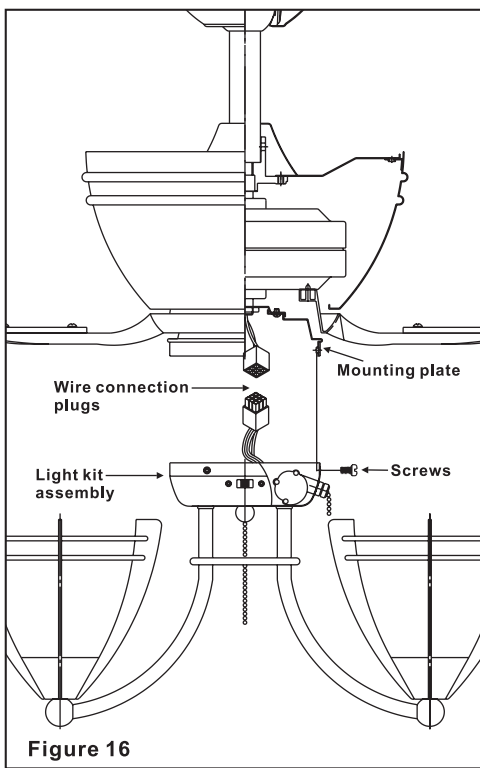

Figure 16
2. While holding the light kit assembly under your fan, snap together the wire connection plugs. (Fig. 16)
3. Carefully push all wires back into the light kit assembly, then install the light kit assembly onto the mounting plate with 3 screws previously removed. Be sure to tighten all screws. (Fig. 16)